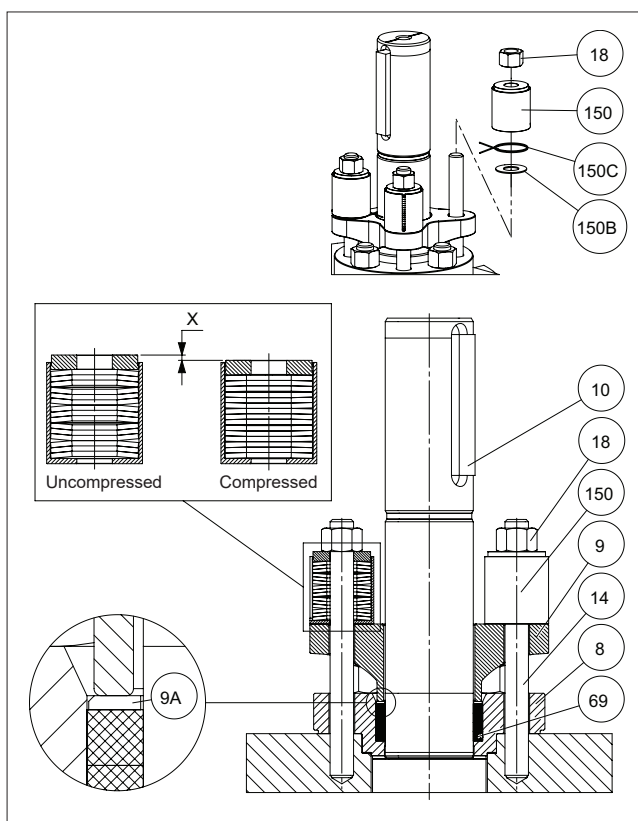

Fig. 9 Gland packing
- Remove the key (10).
- Remove the nuts (18), the disc spring sets (150), washers 150B, anti static springs (150C), the gland (9), and anti extrusion ring (9A).
- Remove old packing rings (69). Do not damage the surfaces of the packing ring counterbore and shaft.
- Place the new packing rings (69) over the shaft (5). The gland (9) may be used for pushing the rings into the counterbore. Do not damage packing rings in the shaft keyway.
- Install Washers (150B), anti static springs (150C) in opposite side studs (14).
- Pre-compress the packing rings first by tightening the gland with disc springs (150) to the height X. See Fig. 9 and the value from Table 2.